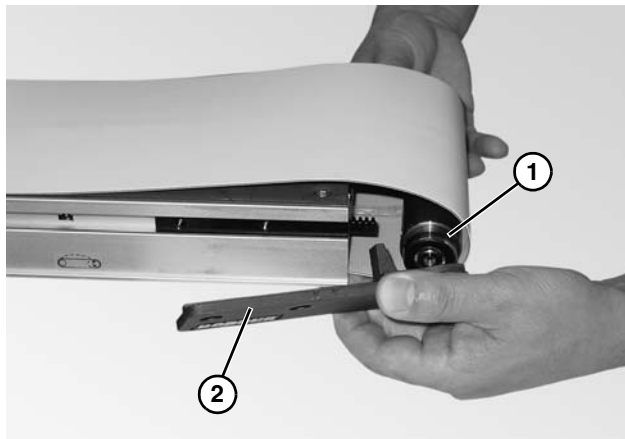

**Figure 39**
2. Use a bearing installation tool, (**Figure 39, item 1**), part number 450292 or equivalent and press bearings onto the spindle and drive spindle.